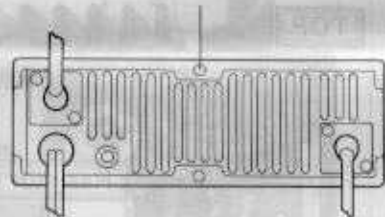

Figure 4
1. Disconnect the power cable at the rear of the transceiver. Referring to Figure 4, remove the rear panel screw affixing the top cover. Remove the cover by sliding it back about 1cm, and then lifting it away. Then remove the seven screws affixing the shield cover at the left rear corner of the chassis, and remove the shield cover.